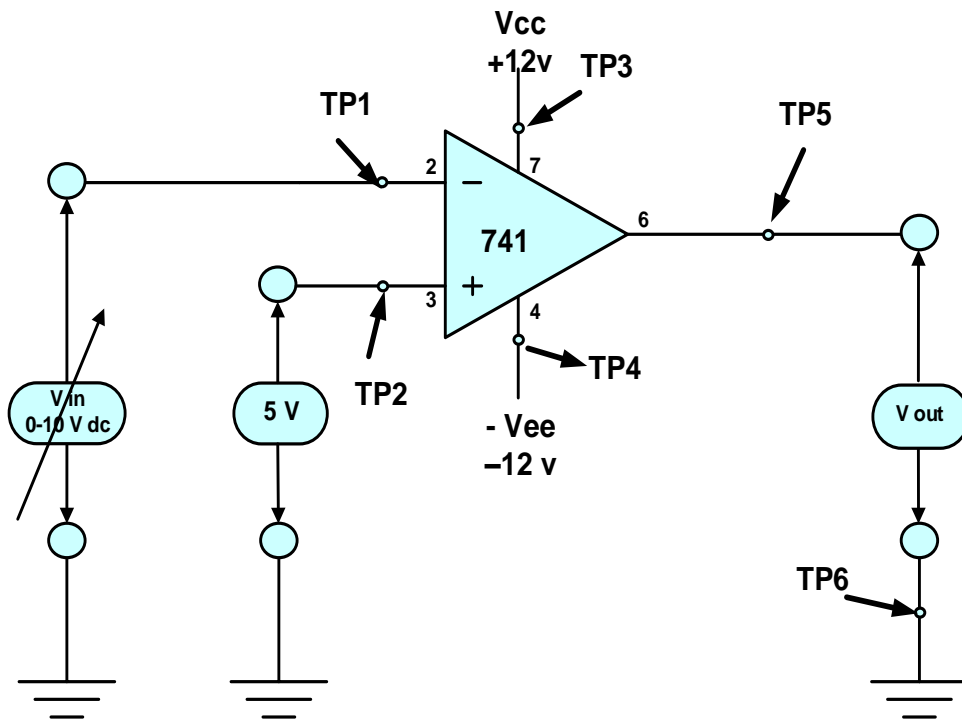

Figure 2.2
1. Assemble the circuit as shown in the Figure 2.2